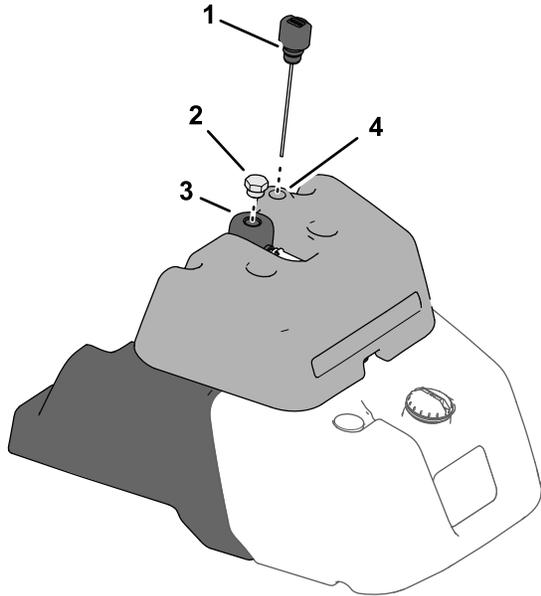

Figure 34
- If your machine has a fuel gauge at the top of the fuel tank, locate the dipstick for the hydraulic system at the top of the leak detector tank (Figure 34) and proceed to step 3.